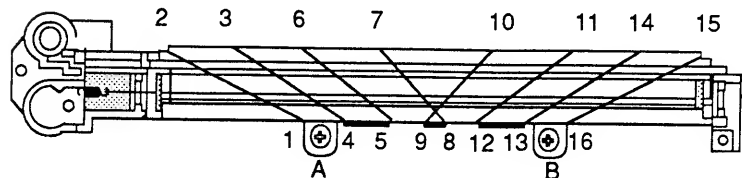

FIGURE 45
7. Restring the guide wire as shown in Figure 45:
- b) Wind the wire tightly around the corona assembly as shown in Figure 45, and fasten the other end of the wire with screw B.